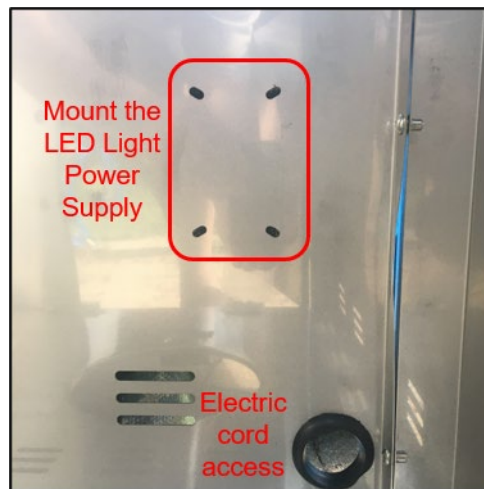

Figure 14 Mount the LED Light Power Supply
8. If desired, attach the LED light power supply to the four mounting holes on the lower right corner inside the cart (Figure 14)